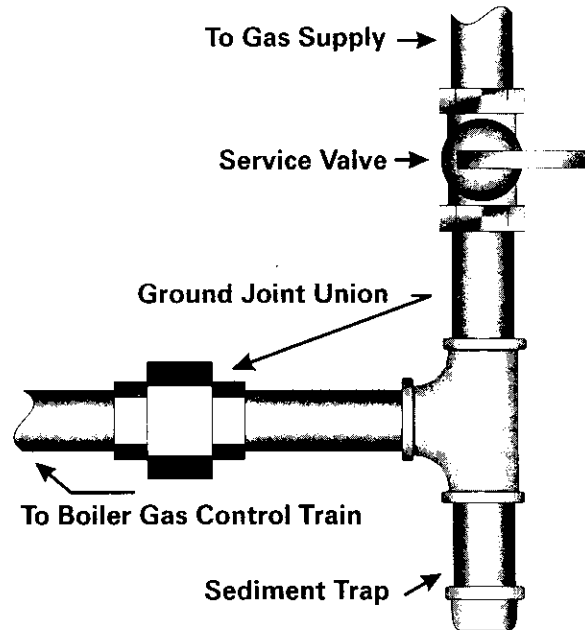

Figure 27: Gas Supply Connection to Boiler
4. Install a Service Valve, Sediment Trap and Ground Joint Union at the supply connection to the Gas Control Train as shown in Figure 27. These are not supplied with the boiler. Install them in accordance with local codes.